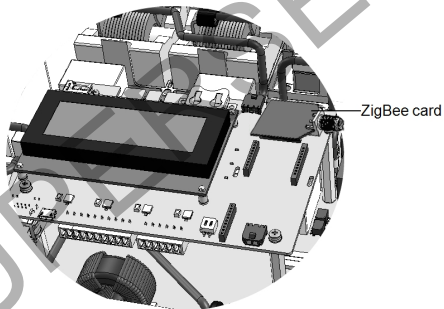

Figure 8: ZigBee on HD-Wave inverter communication board
3. Connect the ZigBee card in its place on the communication board, as shown in *Figure 8*.